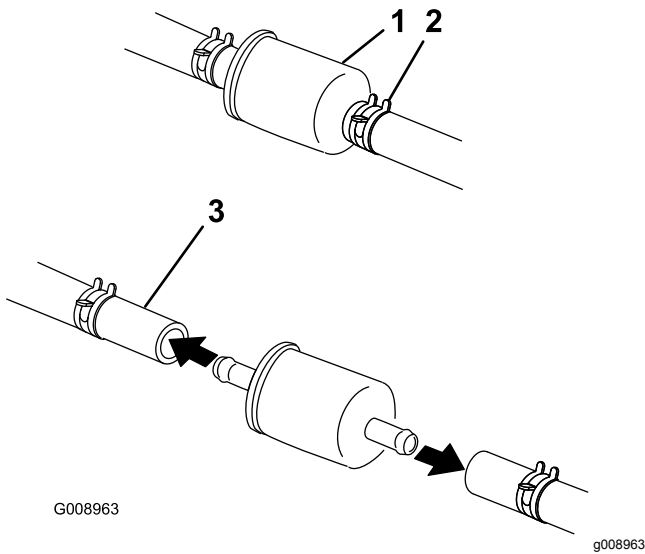

Figure 65
4. Close the fuel-shutoff valve under the seat (Figure 65).
5. Squeeze the ends of the hose clamps together and slide them away from the filter (Figure 65).
7. Install a new filter and move the hose clamps close to the filter (Figure 65).